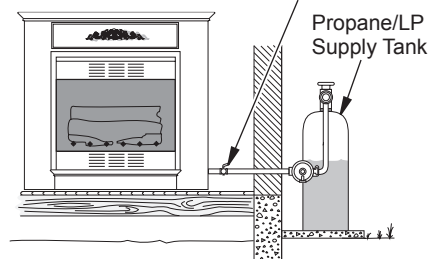

Figure 24 - Checking Gas Joints Propane/LP Gas (Shown with Optional Mantel)
3. Check all joints from gas meter to equipment shutoff valve for natural gas or propane/LP supply to equipment shutoff valve for propane/LP (see Figures 24 and 25). Apply noncorrosive leak detection fluid to all joints. Bubbles forming show a leak.
4. Check all joints from equipment shutoff valve to thermostat gas valve (see Figures 24 and 25, page 17). Apply noncorrosive leak detection fluid to all joints. Bubbles forming show a leak.